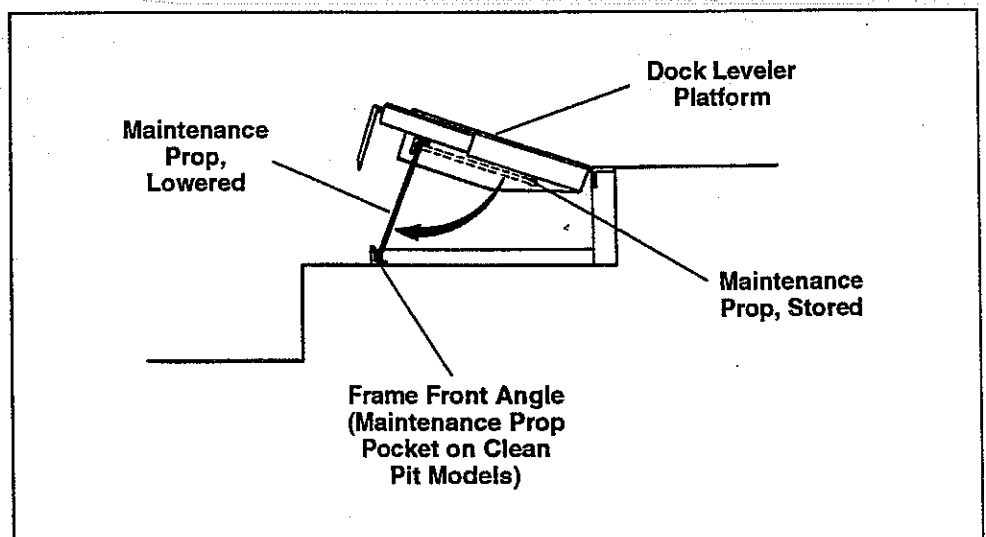

Fig. 2. Maintenance Prop in Position
8. Lower the maintenance prop which is hinged to the under side of the platform. The bottom of the prop should be positioned securely into the front frame angle or prop keeper. See Figure 2. Be sure there are shims positioned under the front angle at the point the maintenance prop rests.